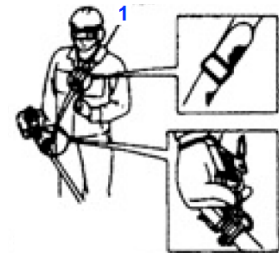

Fig.BC7
4.6- Wearing the Strap (Fig. BC7)